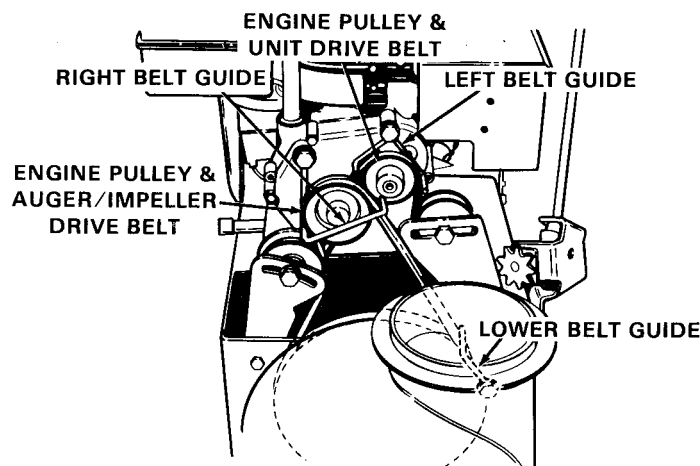

Figure 6. Drive Belt Replacement
3. Loosen screw holding belt guide (figure 6).
4. Remove belt from pulley (figure 6). Pivot belt guide as necessary.
3. Loosen screw holding right belt guide (figure 6):